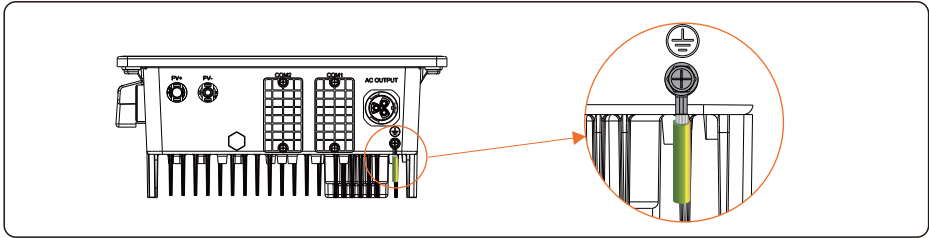

Figure 5.4 Secure the PGND cable
Step4 Secure the PGND cable (done by step 1 & 2) using the ground screw and tighten the screw using a socket wrench (torque 1.2 N·m), as shown in Figure 5.4.